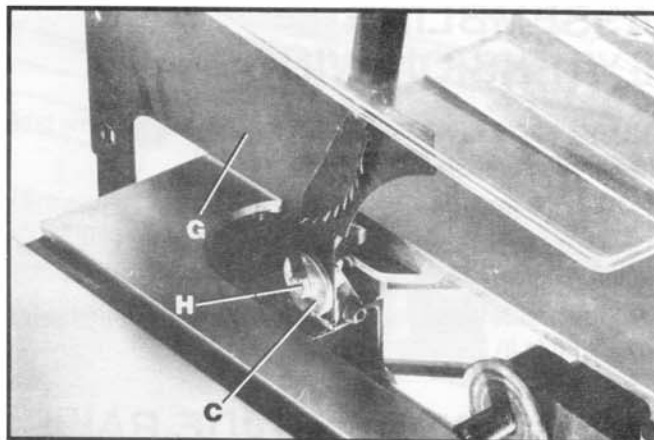

Fig. 24
7. Assemble the blade guard and splitter assembly (G) Fig. 24, between the large washer (C) and the splitter bracket and tighten screw (H), with wrench supplied.